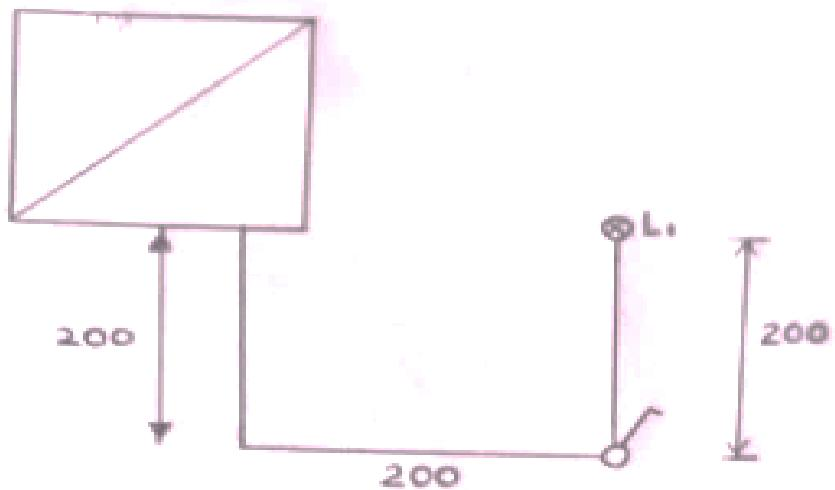

Figure 1
1. Prepare metallic trunking work pieces for the installation of Figure 1
2. Mount metallic trunking work pieces for the installation of Figure 1
3. Figure 1 shows an electrical layout diagram of a final sub-circuit.